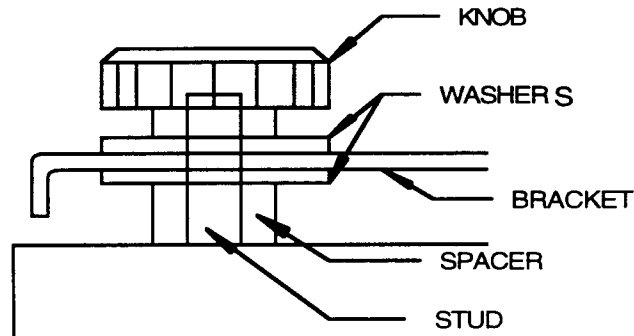

Figure 3. Attaching the Bracket to the Darkroom
Step 8: Place another washer onto each stud on top of the bracket. Screw a black knob on top of the washer (See Figure 3). Tighten all knobs securely.